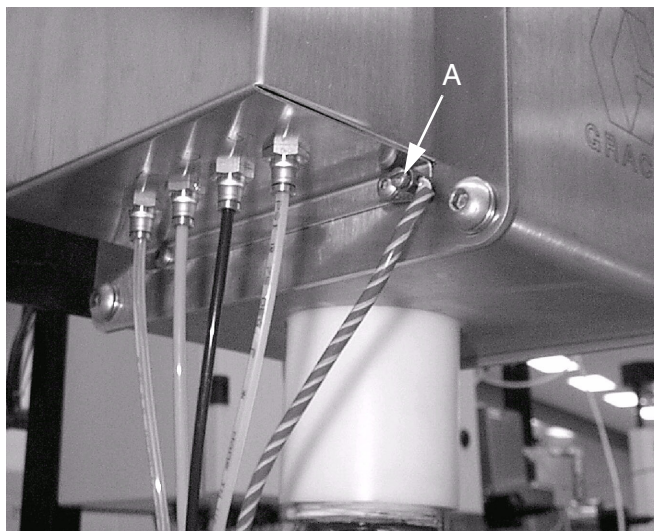

FIG. 3
**Gun Flush Box:** Connect a ground wire to the grounding lug (A) on the box. Connect the ground clamp to a true earth ground. FIG. 3.